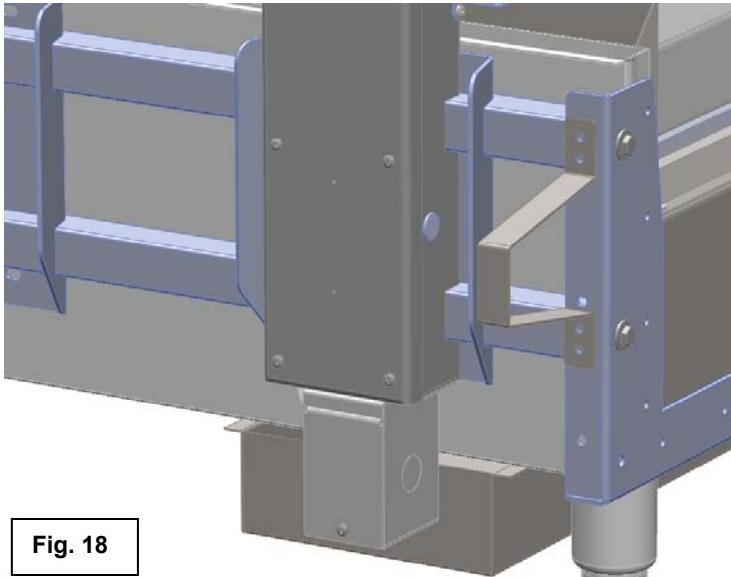

Fig. 18
20. Reinstall the tension rod cover and tighten screws. Fig. 18